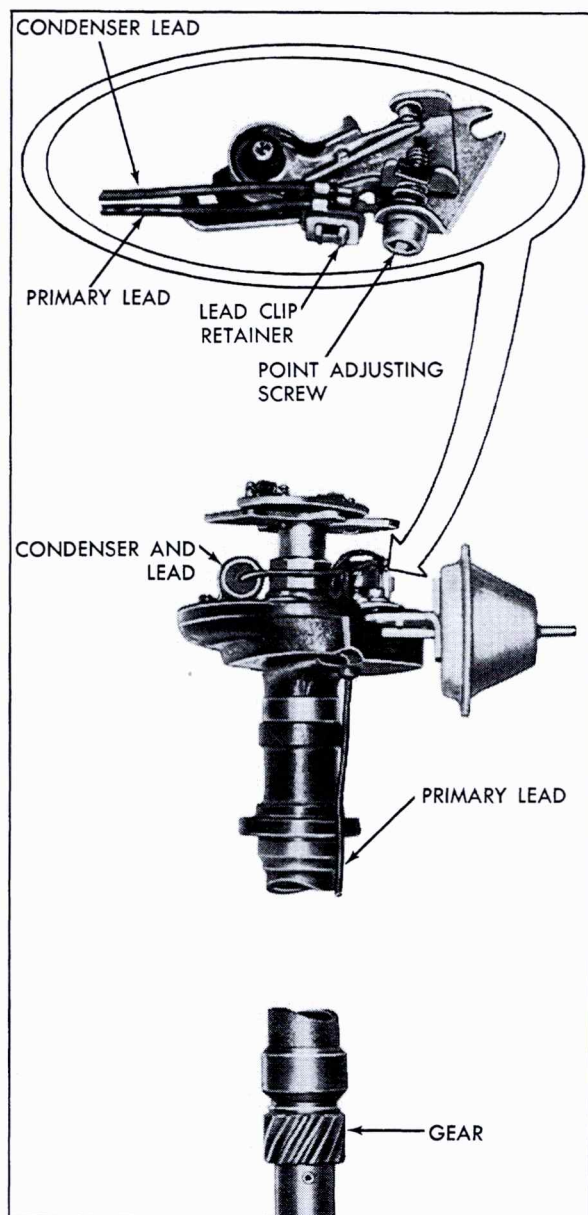

Fig. 6-52 Distributor Point Lead Retainer and Drive Gear
9. Install capacitor and primary leads as shown in Fig. 6-52.
3. Install capacitor lead, primary lead and secure with spring clip retainer, Fig. 6-52.
NOTE: Leads must be properly positioned, as shown in Fig. 6-52, to eliminate interference between cap, weight base, and breaker advance plate.